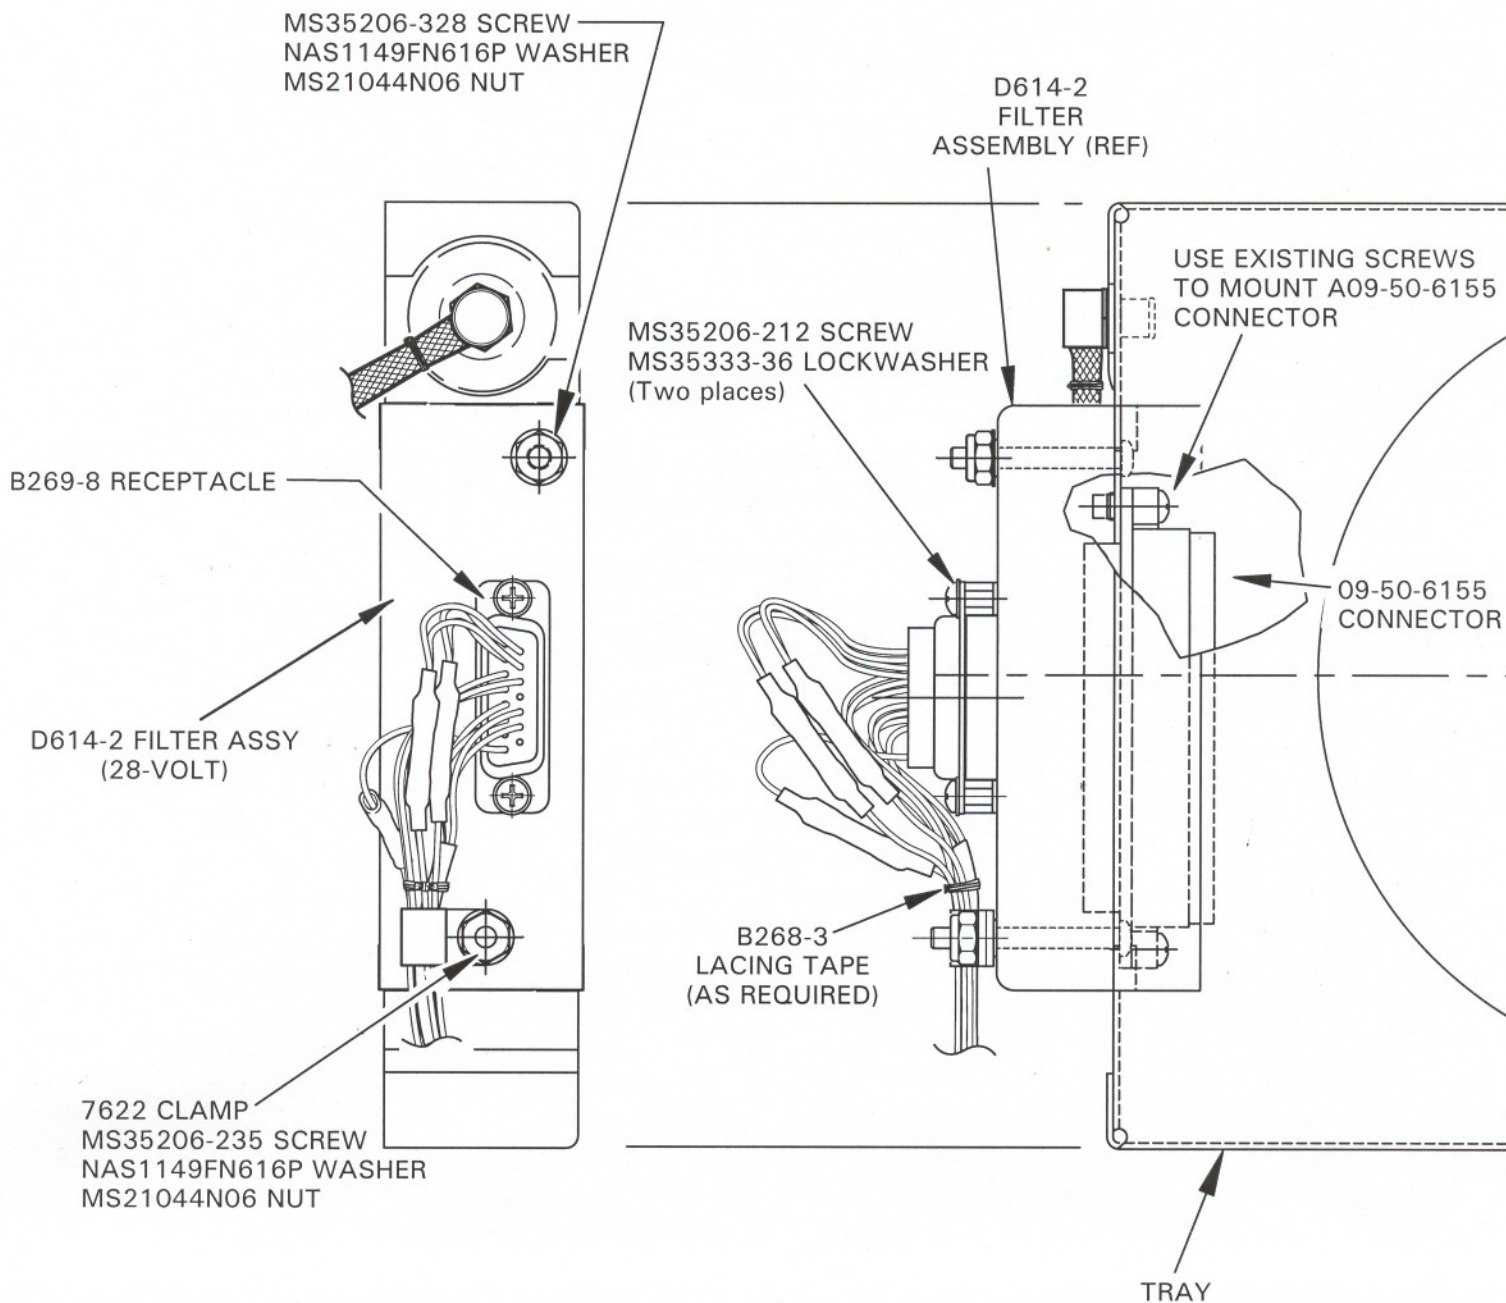

FIGURE 5 FILTER INSTALLATION
8. Refer to Figure 5. Verify white key polarizer is located between tabs 9 and K in filter's 09-50-6155 connector. Mount 90-50-6155 connector to tray using hardware retained in step 3. Mount D614-2 filter assembly to tray as shown using MS35206 screws. Connect and secure B269-8 receptacle to filter as shown. Secure wiring to combined filter and tray using 7622 clamp as shown.